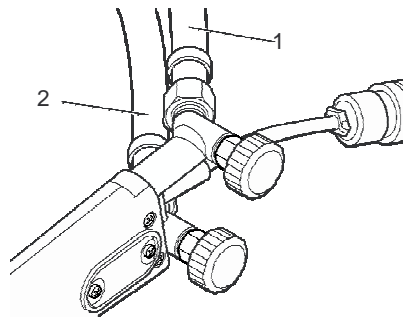

figure 4 - 1
Oxygen hose (green) to the top position hose nipple. Hose (1) in figure 4 - 1.
Gas hose (red) to the bottom position hose nipple. Hose (2) in figure 4 - 1.